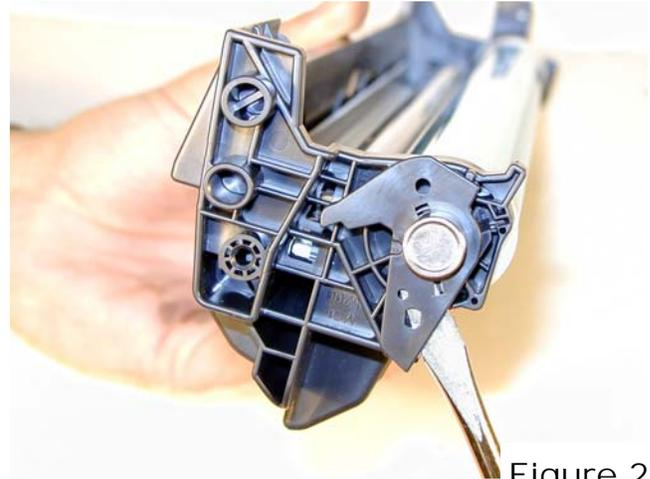

Figure 24
6) On the Waste section, take a common screwdriver and remove the Metal Axle pin/spring loaded cover located on the right side of the cartridge. This is the same type of drum axle pin that the 2400 series uses. It comes out easily enough, but be careful as it seems somewhat fragile. See **Figures 24 & 25**